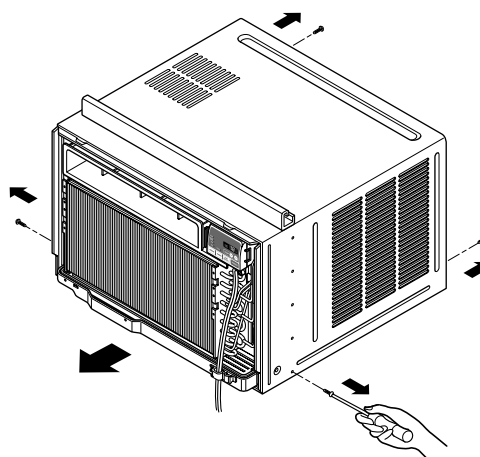

Figure 14
3. Pull the base pan forward. (See Figure 14)